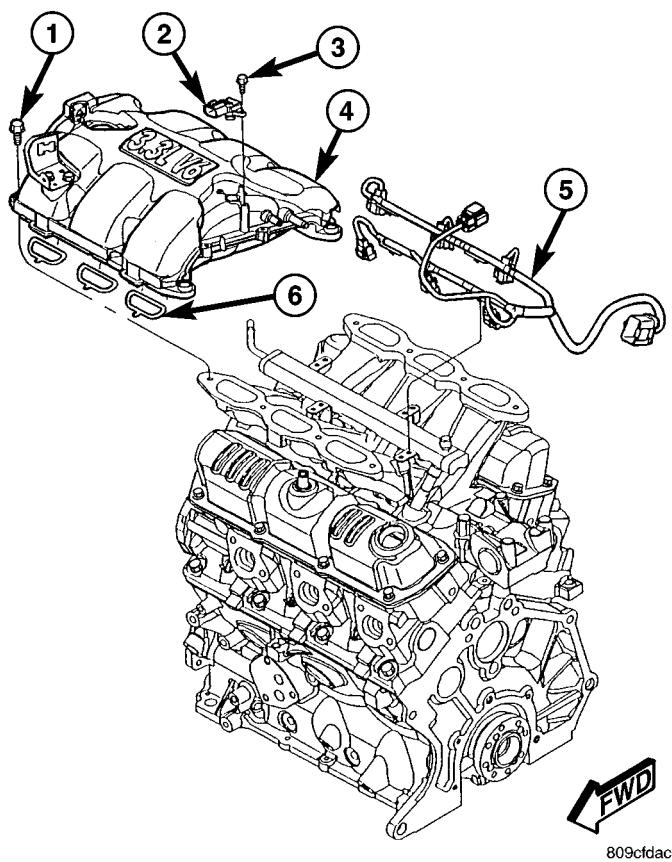
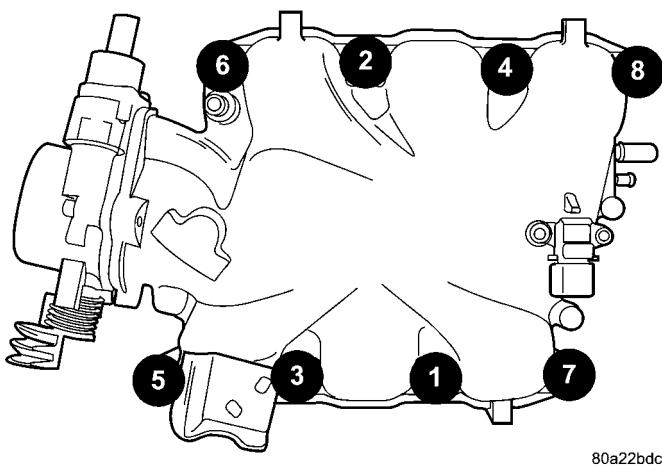

Fig. 118 INTAKE MANIFOLD - UPPER
Fig. 119 UPPER MANIFOLD TIGHTENING SEQUENCE
The intake system is made up of an upper and lower intake manifold. The upper intake manifold is made of a composite for both the 3.3L engine and for the 3.8L engine (Fig. 118). The lower intake manifold is common between the two engines (Fig. 122). It also provides coolant crossover between cylinder heads and houses the coolant thermostat (Fig. 122).
(12) Remove intake manifold bolts and remove the manifold (Fig. 118).
(13) Cover the lower intake manifold with a suitable cover while the upper manifold is removed.
(14) Clean and inspect the upper intake manifold (Refer to 9 - ENGINE/MANIFOLDS/INTAKE MANIFOLD - CLEANING) and (Refer to 9 - ENGINE/MANIFOLDS/INTAKE MANIFOLD - INSPECTION).
(2) Remove covering on lower intake manifold and clean surfaces.
(3) Inspect manifold gasket condition. Gaskets can be re-used, if not damaged. To replace, remove gasket from upper manifold (Fig. 118). Position new gasket in seal channel and press lightly in-place. Repeat procedure for each gasket position.
(4) Position upper manifold on lower manifold (Fig. 118). Apply Mopar® Lock & Seal Adhesive (Medium Strength Threadlocker) to each upper intake manifold bolt. Install and tighten bolts to 12 N·m (105 in. lbs.) following torque sequence in (Fig. 119).